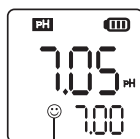

Figure 1
5. Dip the probe in pH 7.00 buffer solution, stir gently, and allow it to stand still in the buffer solution until a stable reading is reached. When measurement stability icon (⊙) appears and remains on the screen (see Fig 1); then short press CAL/ $\rightarrow$ key to complete the one-point calibration. The tester returns to measurement mode and indication icon "M" will appear at the bottom left of the screen, indicating the middle point of calibration has been completed.